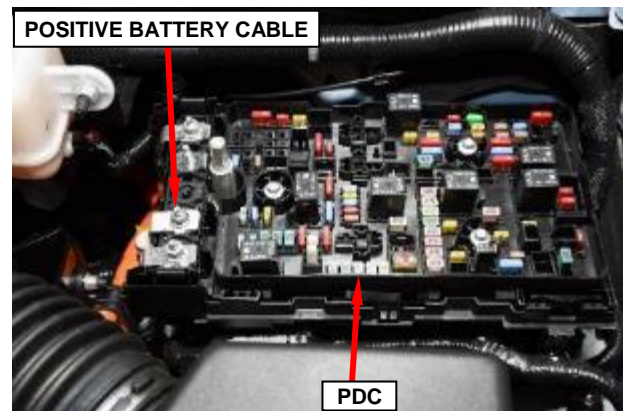

Figure 2 – Positive Battery Cable
5. Remove and save the nut securing the positive battery cable, then disconnect the positive battery cable from the 12-volt PDC (Figure 2).